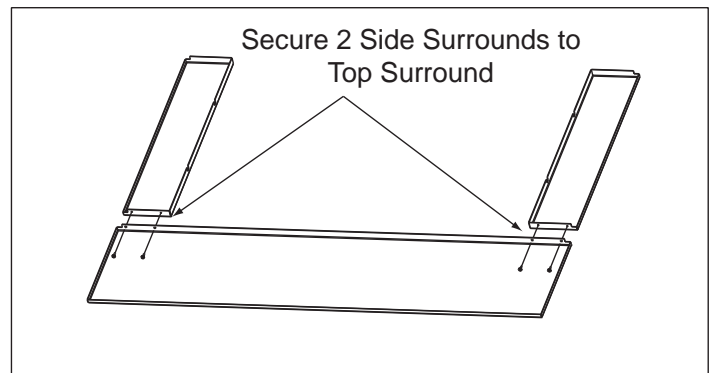

Figure 20.1
2. Using a Phillips head screw driver attach the side surrounds to the top surround using 2 #8 sheet metal screws provided with the kit. **Figure 20.1**